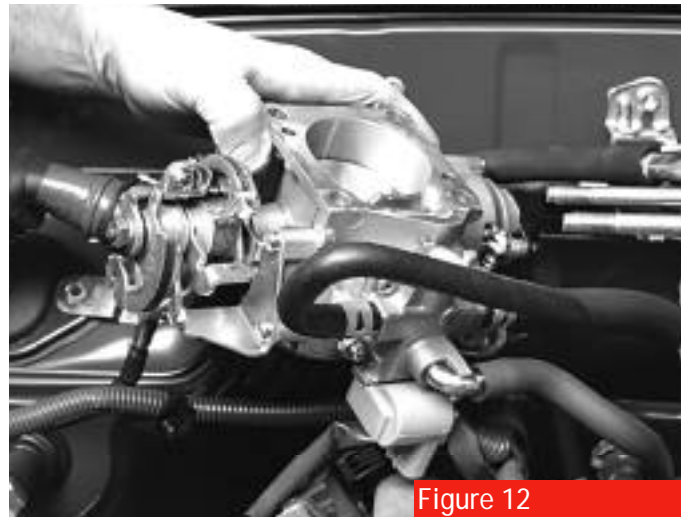

Figure 12
TIP: The coolant hoses have clamps (see arrows, figure 12), the vacuum hoses do not.
15. Remove the throttlebody **with** attached coolant hoses and cruise control cable (if equipped) and set to the passenger's side (**figure 12**).